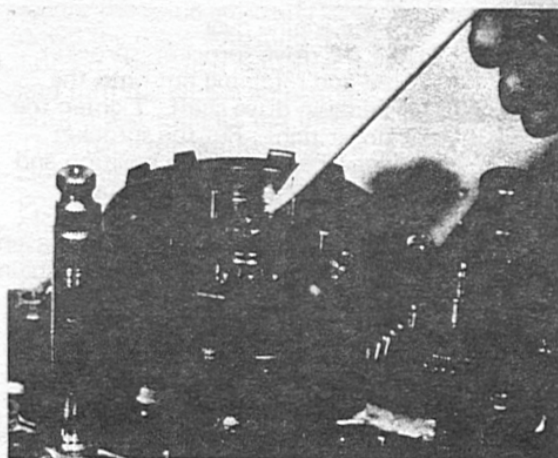

Fig. 17
19. Install the clutch assembly onto the countershaft. To positively engage the drive dogs, rotate the kick starter shaft. When the clutch is properly installed, approximately 1/2 inch of the transmission countershaft will protrude through the clutch assembly. (Figure 17)